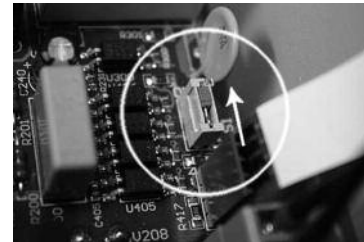

Figure 1
A PARAMETER is control function that can be set. To be able to set parameters the dipswitch S1 (see fig.1) must be up \*.
- switch off the supply voltage with the main switch (6), or pull the supply plug out of the wall socket
- move the dip switch up, or down and up again if already up (see figure 1)